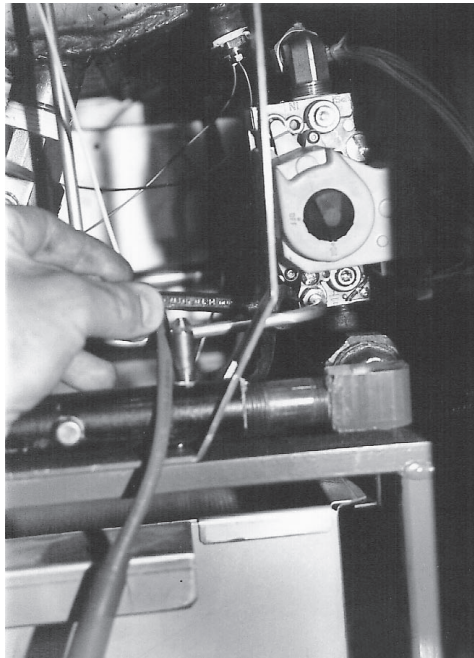

Fig. 41
2. With a $\frac{7}{16}$ " wrench, loosen the pilot tube holding nut. (Fig. 41)